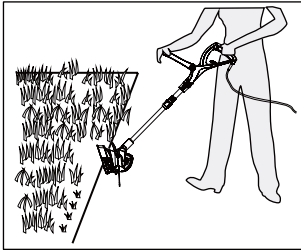

Fig 16
2. Adjust the trimmer head angle to 90° for edging (Fig 16).